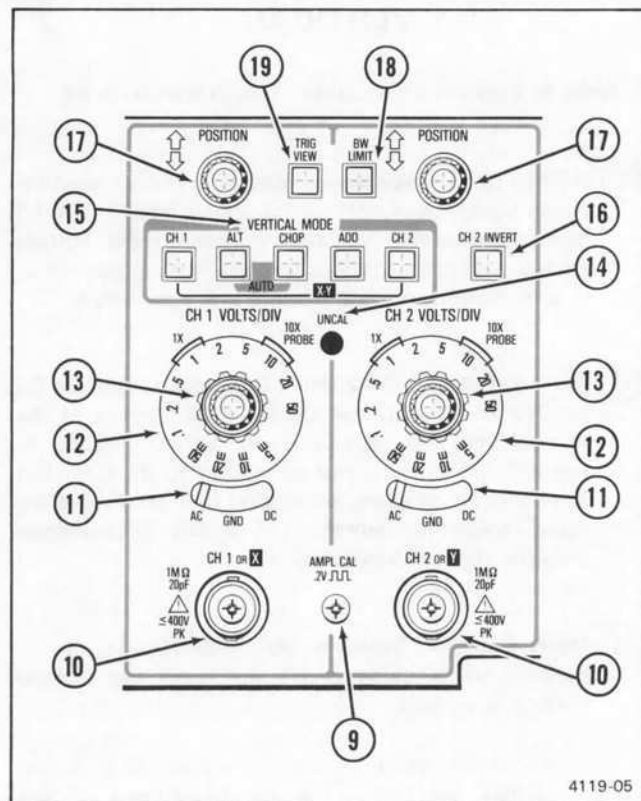

Figure 4. Vertical controls, connectors, and indicators and calibrator output.
Refer to Figure 4 for location of items 9 through 19.